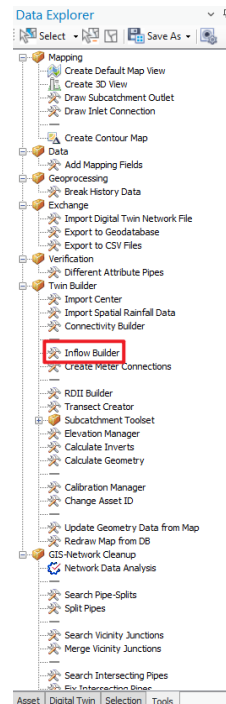

Figure 7: Location of Inflow Builder.
1. Open the *Inflow Builder* (**Figure 7**) in the *Tools* tab of the *Data Explorer*.